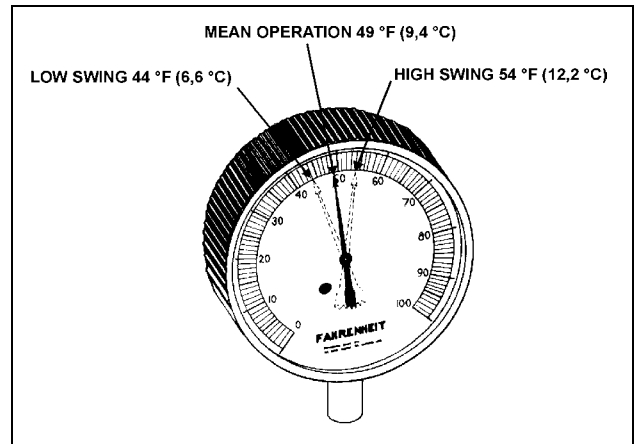

**FIGURE 27: SUPERHEAT ADJUSTMENT INSTALLATION**
The easiest method of adjusting the superheat is to backseat the main evaporator expansion valve adjusting screw, and screw in 5-1/2 turns clockwise (refer to Fig. 27). If this method does not provide an accurate superheat, the following procedure should be followed:
3. Install a remote reading thermometer to the evaporator outlet line near the existing remote bulb (refer to Fig. 27).